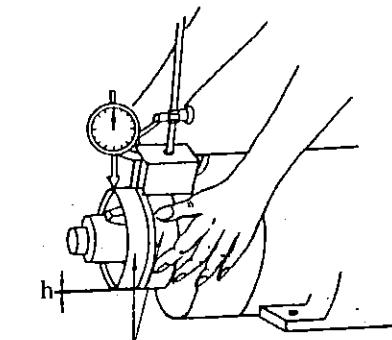

Fig. 2B
- c) Firmly set a dial gauge feeler against one half coupling surface (see Fig. 2B).